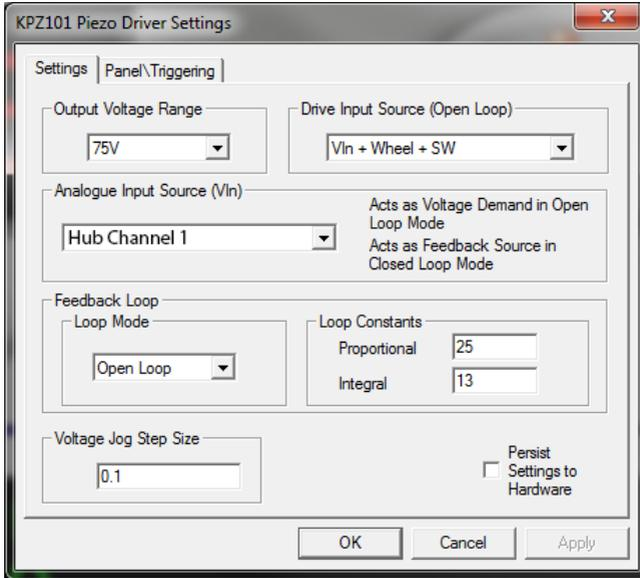

Fig. 5.3 Piezo Driver Settings
- 12) Make the following parameter settings, as shown in Fig. 5.3
- 17) Make the following parameter settings, as shown in Fig. 5.3